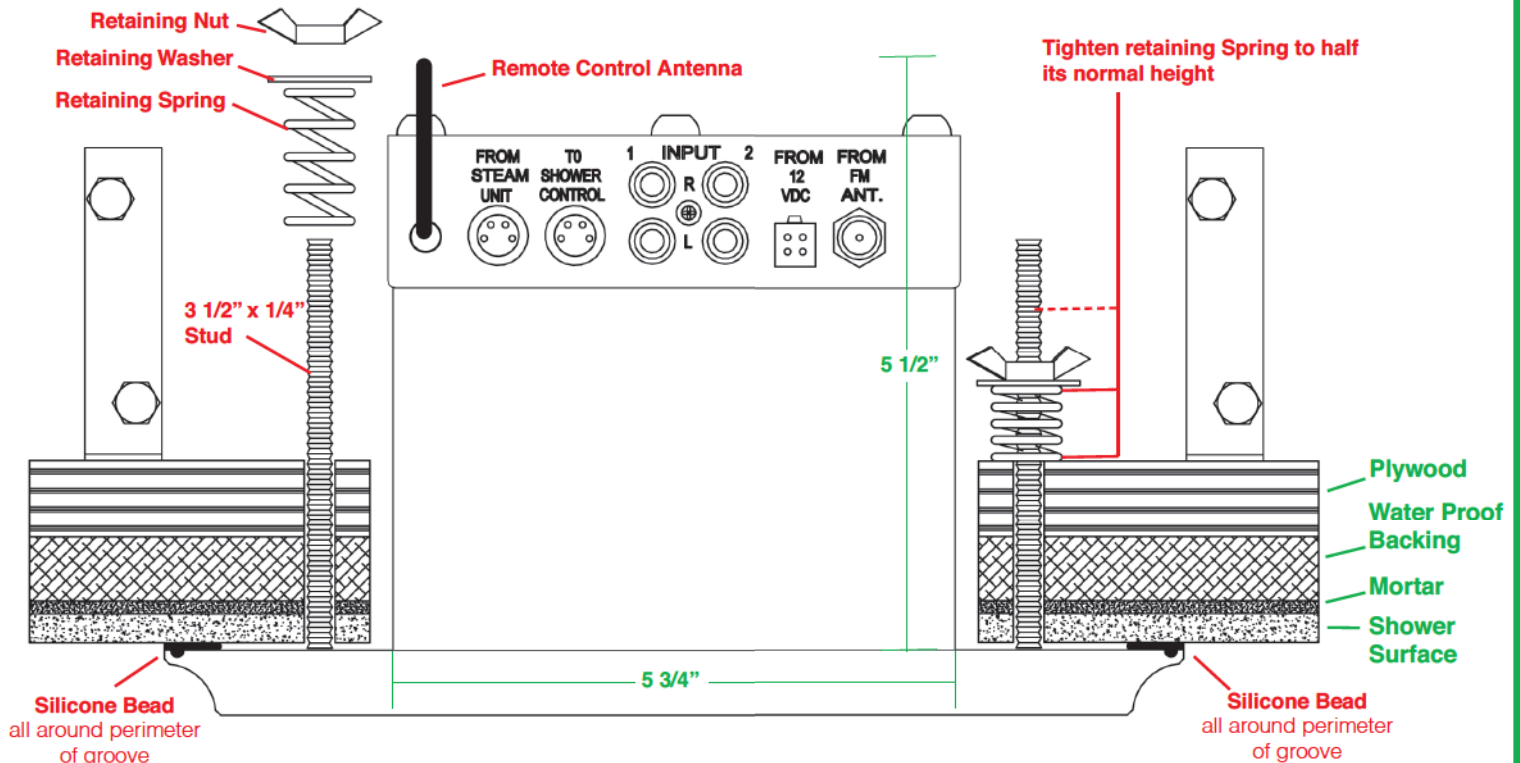

Figure 1
4. Apply silicone around center of groove on back of Light. Push fixture tight against ceiling as shown in Figures 1 & 2, having a helper overhead to install and tighten springs, washers and wing nuts. Tighten nuts until springs are compressed half way. Allow silicone to dry for 24 hours.